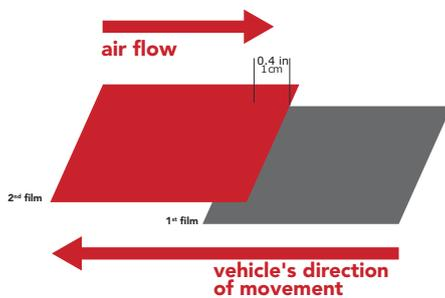

Figure 29
- Vertical overlapping of the HX20000-HX30000 film on a mobile surface: assuming you always apply the film starting from the rear of the vehicle and moving to the front, then the overlapping will be done in the same way. (FIG. 29)